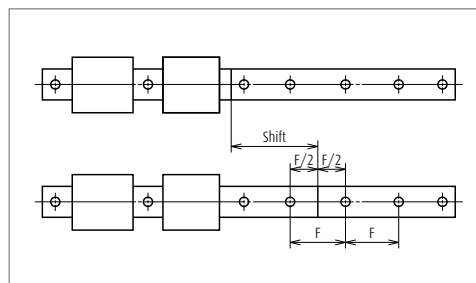

Fig. 10.26
- › The pitch of the rail mounting hole on the butting section should be as F in Fig. 10.26. When two rails are used in parallel, the butted sections should not align. This is to avoid change in the running accuracy of the table at the butted sections.